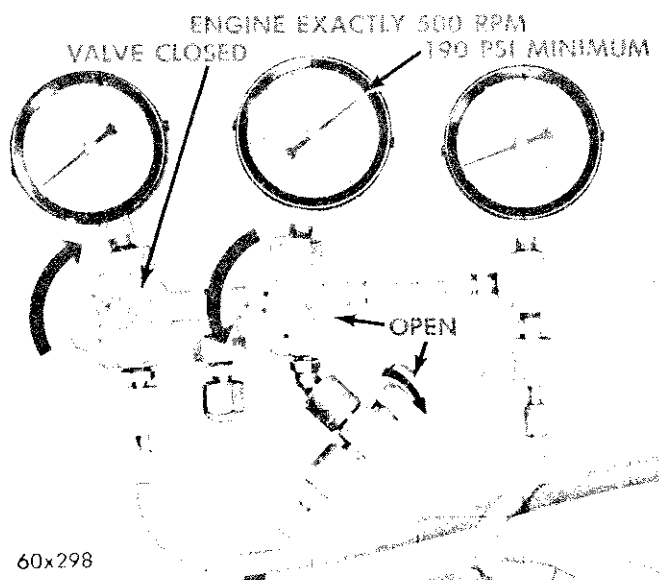

Fig. 49—Compressor Test Pressures
2. Slowly close the left-hand gauge valve. Refer to Figure 49. All air delivered by the compressor will now be discharged through the metering orifice in the test cap. Pressure registered at the discharge gauge should build up to at least 190 psi.